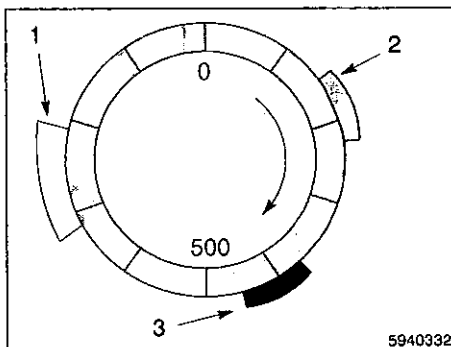

Fig. 2-9 Operating Mode 1 - Typical Setup
- The group position resets at the leading edge of the input terminal signal, regardless of how long the terminal is on (item 2, Figure 2-9).
- Output channel setpoints are always enabled (item 3, Figure 2-9).
- Duration (item 1, Figure 2-9) in Group Channel re-arms the terminal .